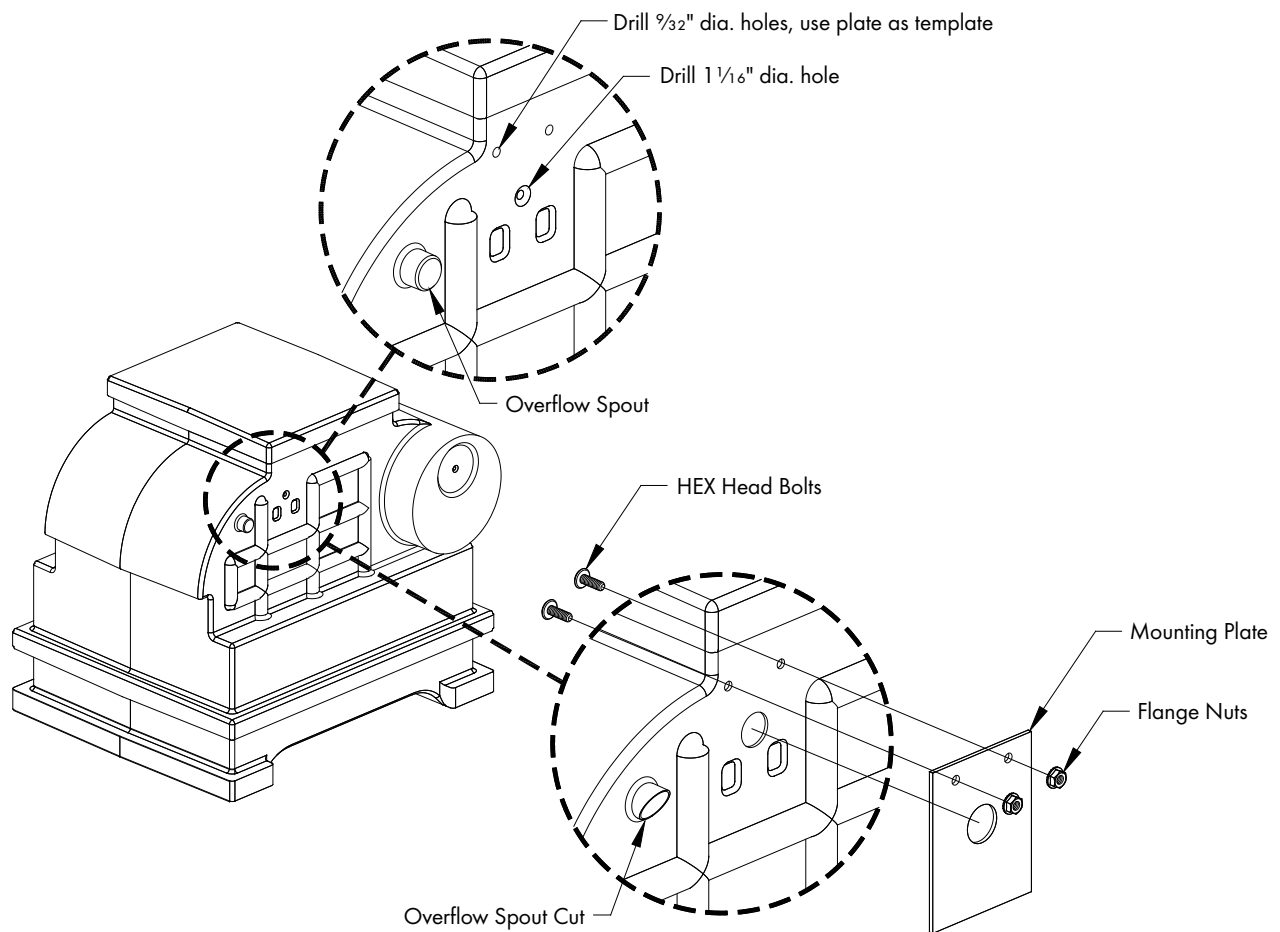

Figure 22
Cut overflow spout at an angle as shown. *See Figure 22.*
Using the circular dimple in the tank, drill a 1 1/16" dia. hole for the float valve. *See Figure 22.*
Hold the Mounting Plate up to the Tank and align the hole in the tank and mounting plate and mark the 2 smaller holes and drill (2) 3/32" dia. holes. Then attach mounting plate to tank using (2) HEX Head Bolts and Flange Nuts. *See Figure 22.*